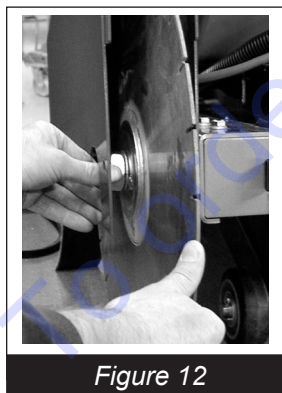

Figure 12
- Fit the washer and arbor shaft nut and retighten the nut using the two 1 1/2" wrenches. (Figures 12 & 13)